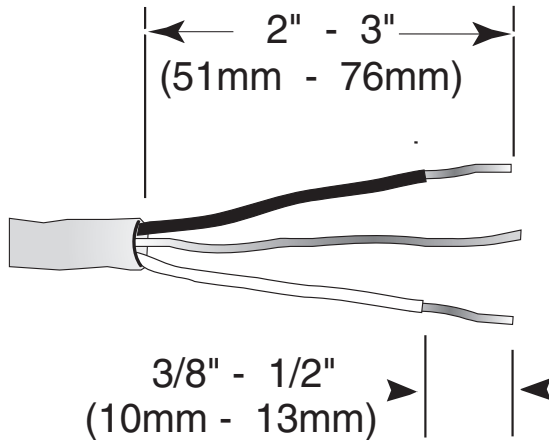

Figure 8
2. Remove 2" to 3" (51 - 76mm) of the outer casing of the household or field supply wiring as shown in **Figure 8**. Remove 3/8" to 1/2" (10 - 13mm) of the insulation from each wire as shown in **Figure 8**.